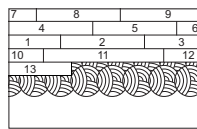

Figure 8d
- Be sure not to spread adhesive too far ahead of your work area (Figure 8d).